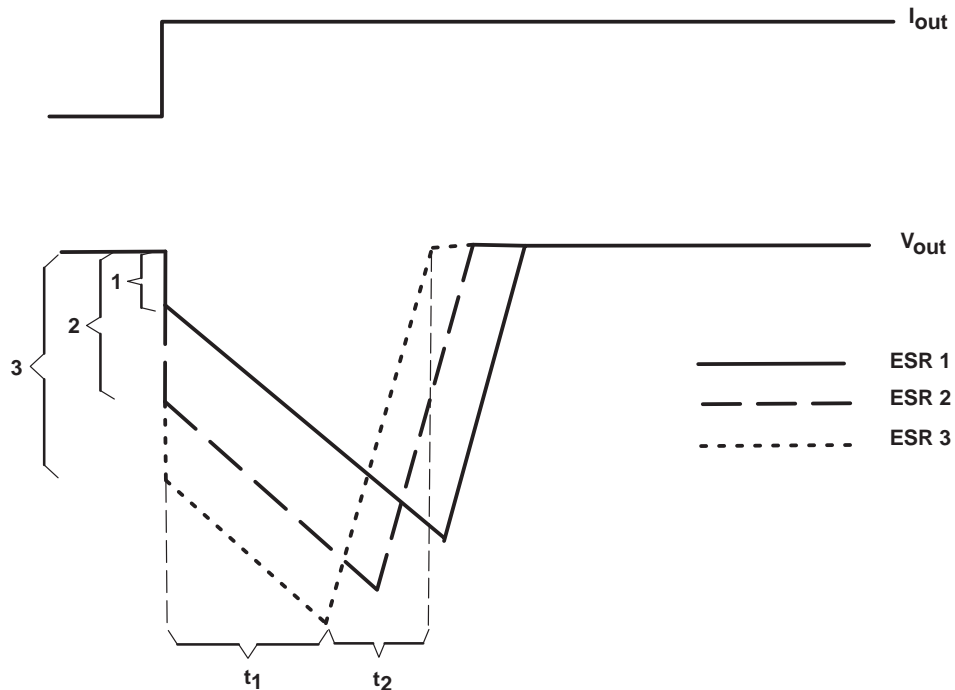

Figure 23. Correlation of Different ESRs and Their Influence to the Regulation of  $V_{out}$  at a Load Step From Low-to-High Output Current
- The LDO is not able to supply the sudden current need due to its response time ( $t_1$  in Figure 23). Therefore, capacitor  $C_{out}$  provides the current for the new load condition (dashed arrow).  $C_{out}$  now acts like a battery with an internal resistance, ESR. Depending on the current demand at the output, a voltage drop will occur at  $R_{ESR}$ . This voltage is shown as  $V_{ESR}$  in Figure 22.
- When  $C_{out}$  is conducting current to the load, initial voltage at the load will be  $V_{out} = V_{Cout} - V_{ESR}$ . Due to the discharge of  $C_{out}$ , the output voltage  $V_{out}$  will drop continuously until the response time  $t_1$  of the LDO is reached and the LDO will resume supplying the load. From this point, the output voltage starts rising again until it reaches the regulated voltage. This period is shown as  $t_2$  in Figure 23.